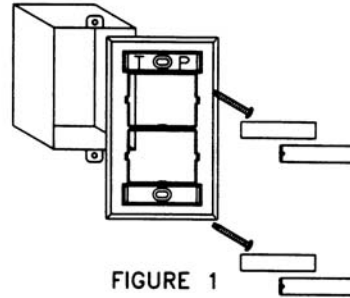
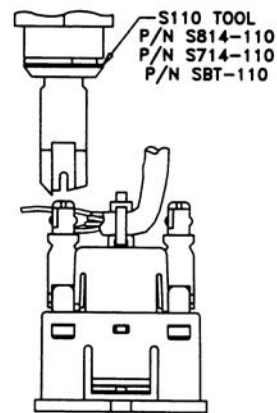
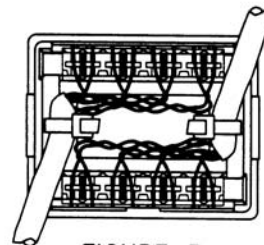

FIGURE 1
FIGURE 2
FIGURE 3
1. Mount faceplate to standard wall box using two #6 screws (included) with "TOP" on top edge as shown in figure 1.
2. Cover screw heads with paper designation tag and clear number cover (also shown in figure 1.)
4. Terminate horizontal cable to S110C-4 blocks of coupler on a firm surface according to wiring chart (see other side). Use a single position 110 punch down tool (figure 2) or the termination caps. Insure cutting edge of tool trims excess wire. If the caps are used, cable ends must be trimmed. Route wires as shown in figure 3 to insure proper fit of coupler into faceplate. Use cable tie eyelets to secure cable to coupler, but do not over tighten or transmission performance may be impaired.
6. Snap coupler into faceplate, making sure modular jacks are properly oriented. Insure the polarization tab of faceplate (see figure 1) and the slot of the coupler (see figure 3) align.